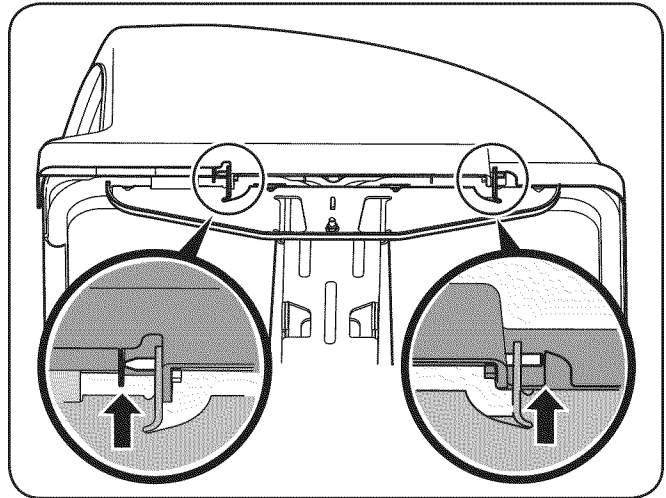

**Figure 4-12**
5. Install the bagger cover onto the bag support assembly, as seen in Fig. 4-12. The plastic cover goes inside of the two mounting tabs.